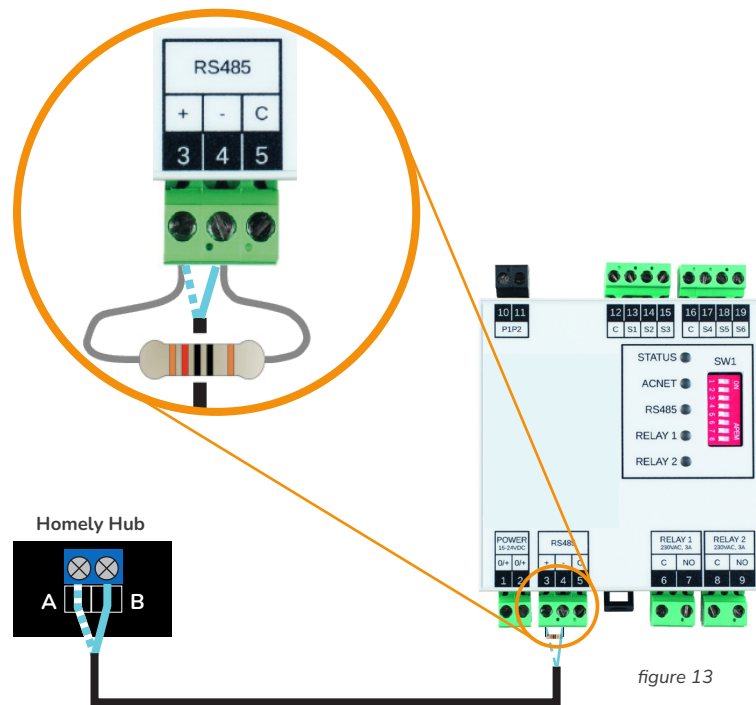

figure 13
3. Connect the supplied 120-ohm resistor between the controller terminals as shown on the next page (figure 13).